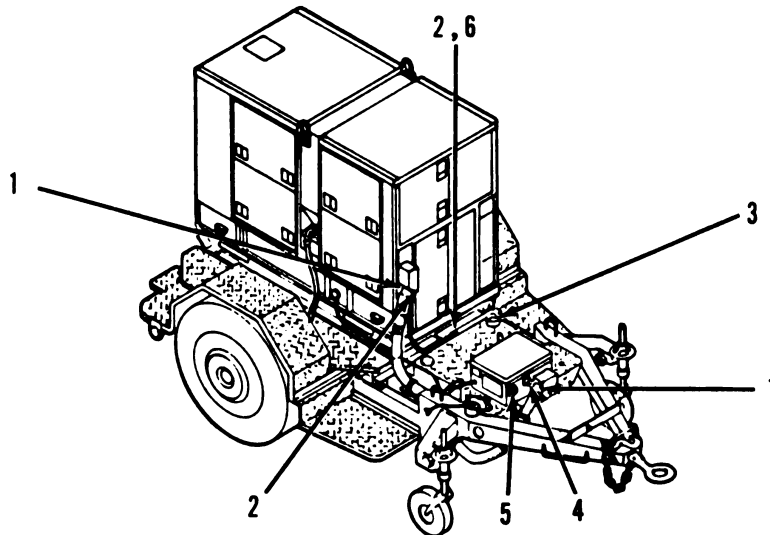

Figure 17-2. Power Unit Connectors and Indicators
c. Power Unit. Figure 17-2 shows locations of connectors and indicators. Table 17-1 lists them and explains their functions.